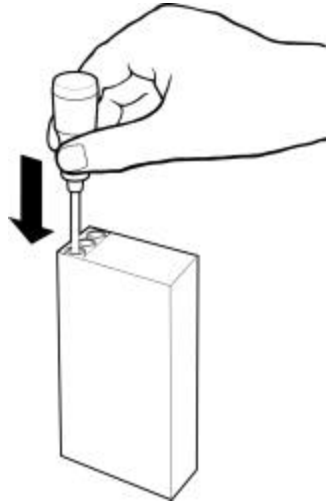

FIGURE 10
- 3) Load a probe cover onto the probe by holding the probe collar with the thumb and forefinger, being careful not to hold or press the ejection button. Refer to Figure 10.